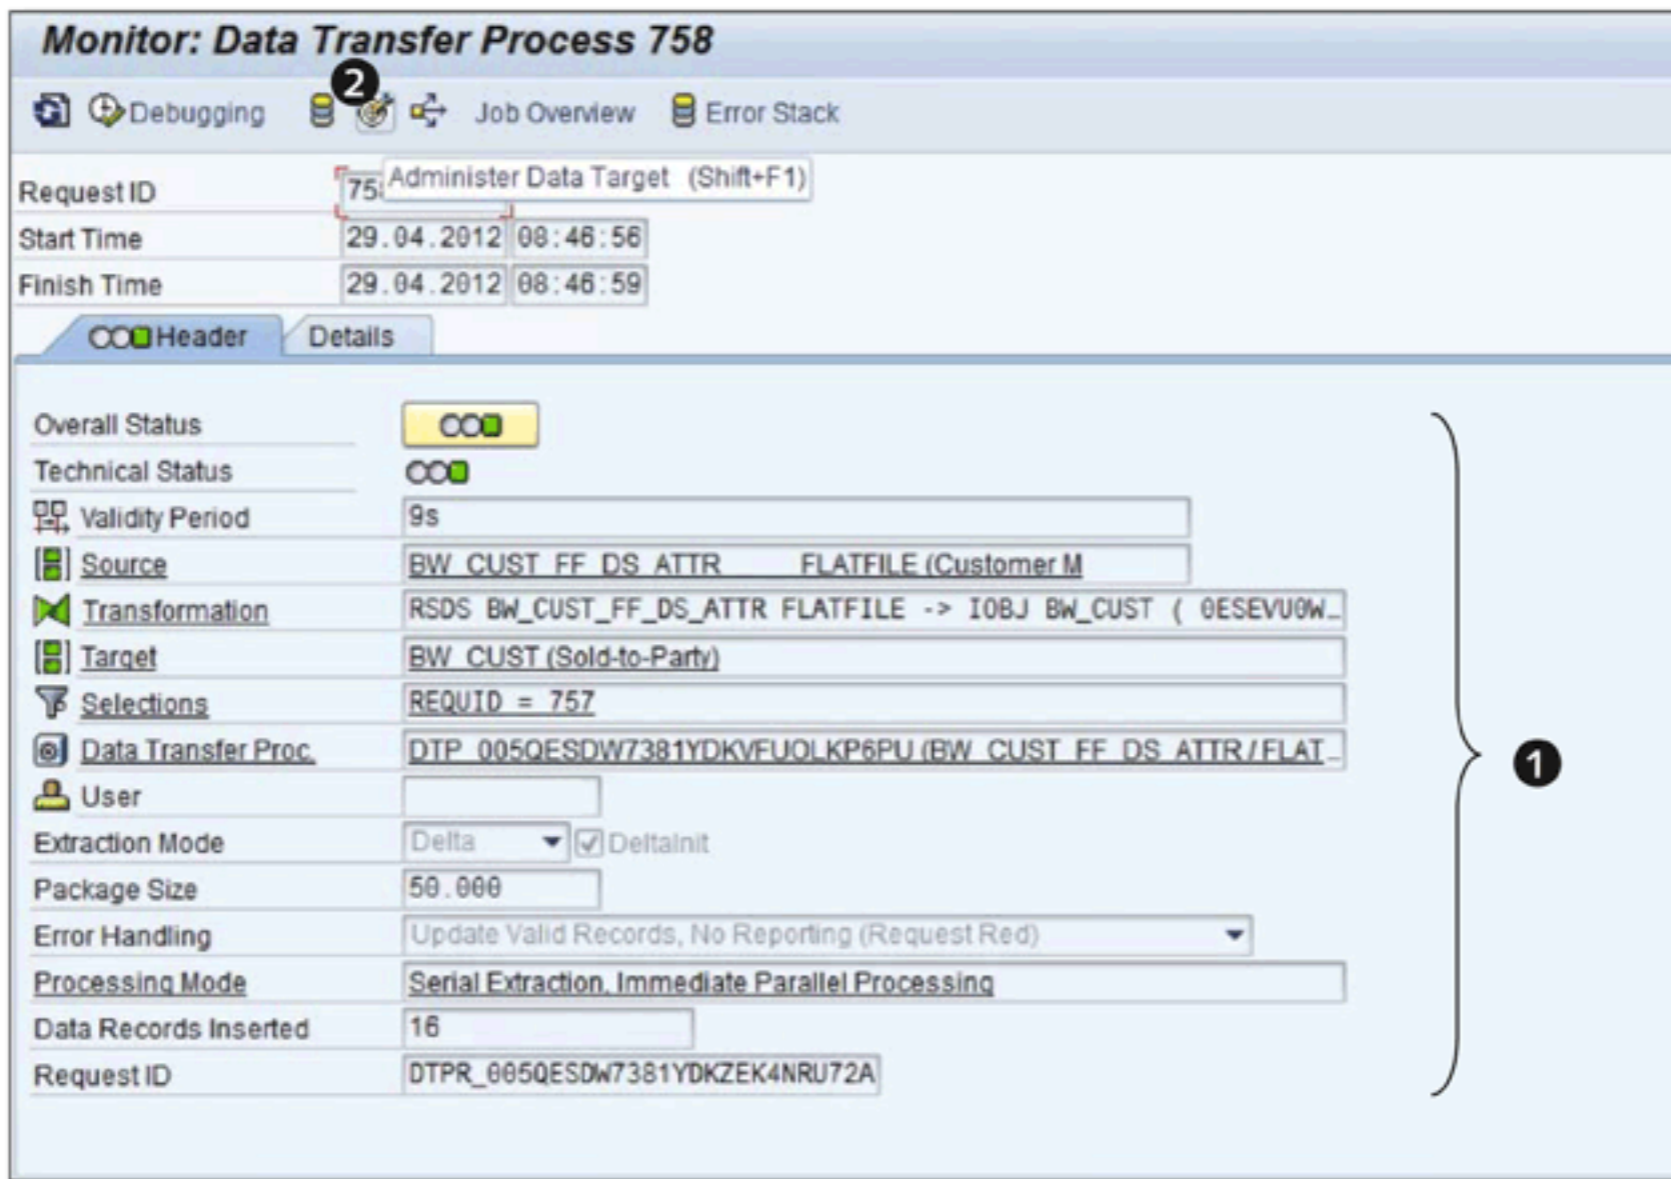
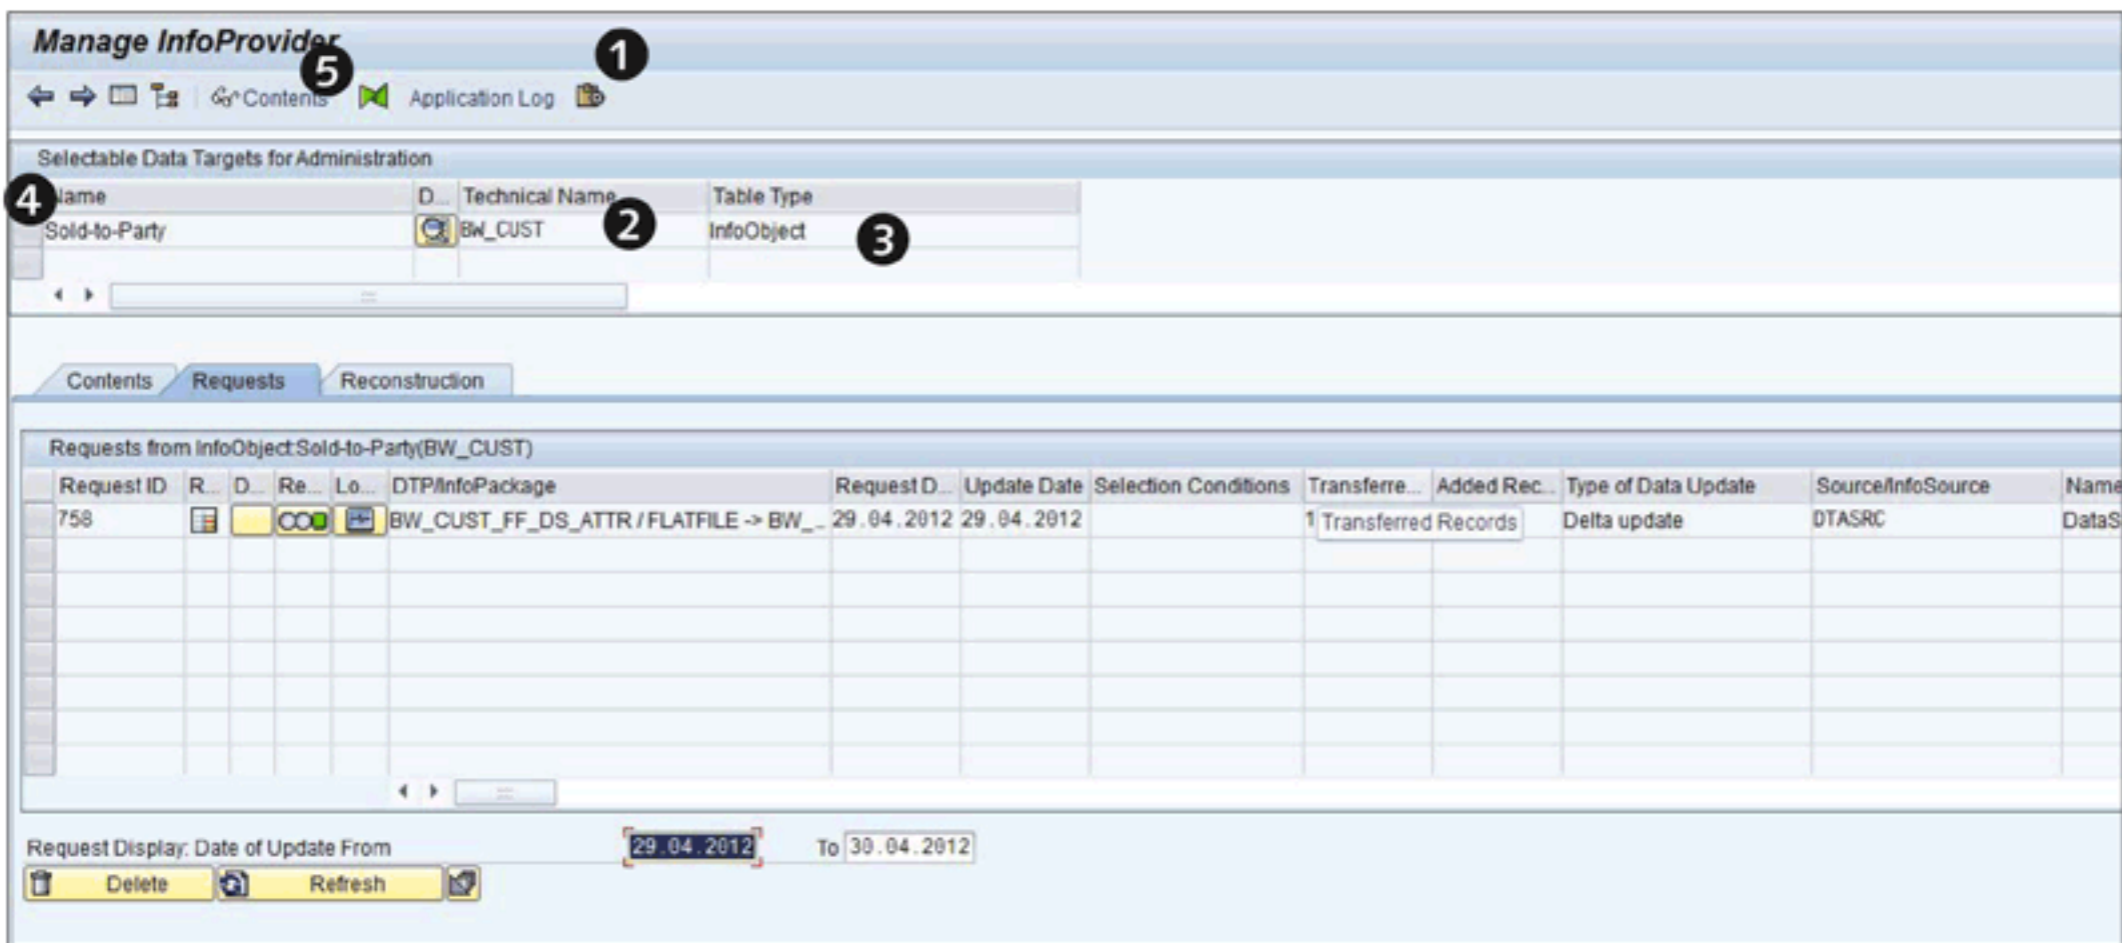

Figure 7.46 DTP Monitor: Header Tab
Figure 7.47 InfoProvider Administration Screen
Click on the HEADER tab (5 of Figure 7.45), and the screen shown in Figure 7.46 is displayed.
The HEADER tab shows all of the settings used for running this DTP (1 of Figure 7.46). The master data from the flat file is now successfully loaded into tables associated with InfoObject BW_CUST.
To view the loaded master data, click on the ADMINISTER DATA TARGET icon shown in 2 of Figure 7.46. The INFOPROVIDER ADMINISTRATION screen appears (Figure 7.47).
As you can see, the InfoProvider is listed as InfoObject BW_CUST (2 and 3 of Figure 7.47). You can select the InfoProvider by clicking on the start of the line (4). A number of administrative tasks can be performed using the functionalities available in the lower part of Figure 7.47, but the details of this go beyond the scope of this chapter. Instead, these topics are addressed in Chapter 14.
From Figure 7.47, click on the CONTENTS button (5). This action results in the screen shown in Figure 7.48, where you can maintain master data.